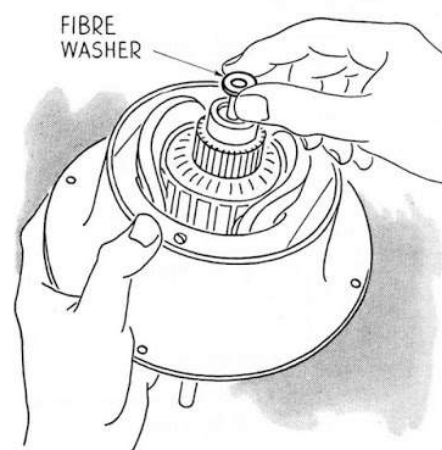

FIG. 66—Using fibre spacing washer to reduce end play
11. If there is too much end play, install one (never more than two) very thin fibre spacing washer on top end of armature shaft to reduce end play to about 1/64 inch. It is necessary to remove motor head casting to install washer. See Figure 66.